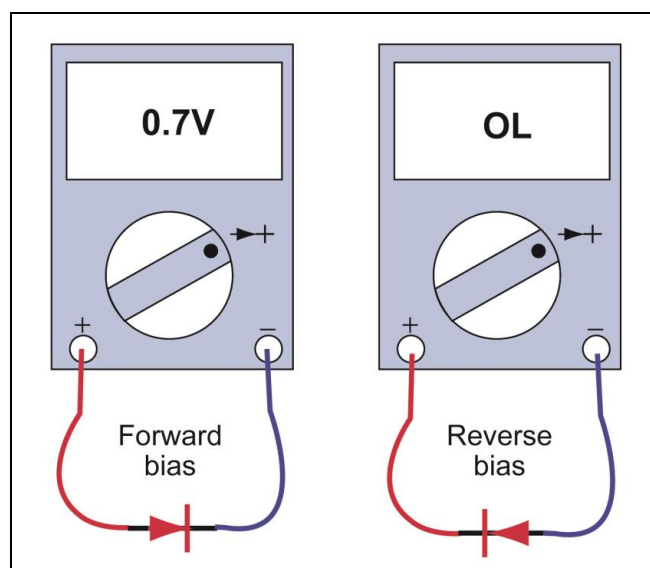

Fig. 1-1 Typical Test Connections to Check Forward and Reverse Diode
1. Set the digital multi-meter on semiconductor test position as shown in Fig. 1-1. Make sure that the positive terminal (Red lead) of the digital multi-meter is connected to the anode terminal of the diode, and the negative terminal (black lead) is connected to the cathode terminal of the diode.